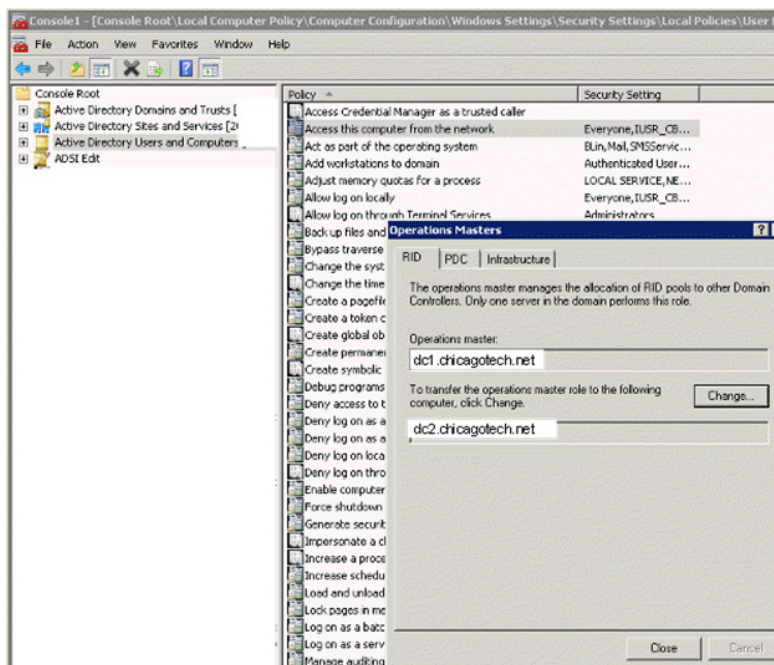

Figure 3. Operations Master Dialog Box
6. Click **Operations Masters** to launch the Operations Masters dialog box (Figure 3).